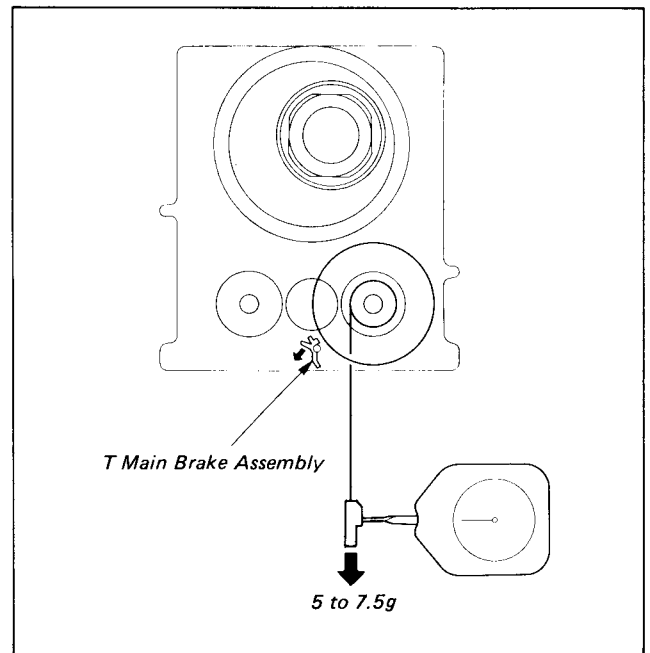

Fig. 1-67
- 4) Pull the dial tension gauge (Ref. No. J-6) toward the arrow and check that the value satisfied the required value. (See Fig. 1-67.)